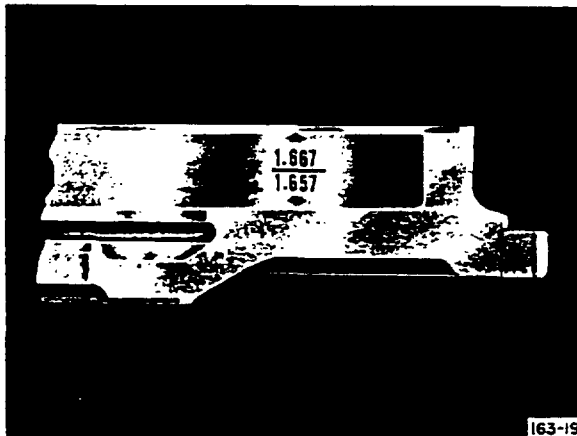

Figure 4-23. Flywheel Rubbing Surface-to-Clutch Cover Bolting Surface Dimension
8. If flywheel is warped or heat checked and surface is refinished, maintain dimensions shown in Figure 4-23 between disc surface and bolting face for proper release lever adjustment. No more than .070 inch maximum may be removed by grinding.